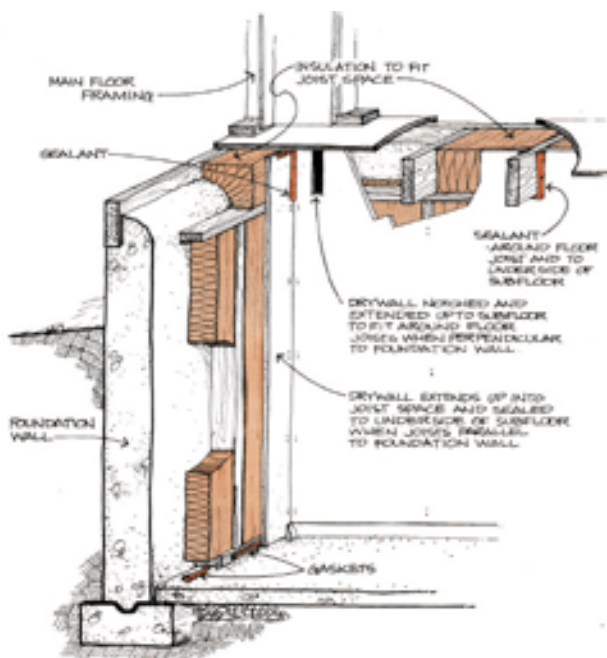

Figure 13
**The Airtight Drywall Approach (ADA.)** is a method that uses properly installed and treated drywall as the air/ vapour barrier. To install a drywall air/ vapour barrier, a strip of gasket material is placed along the bottom and side of the bottom plate (Figure 13).